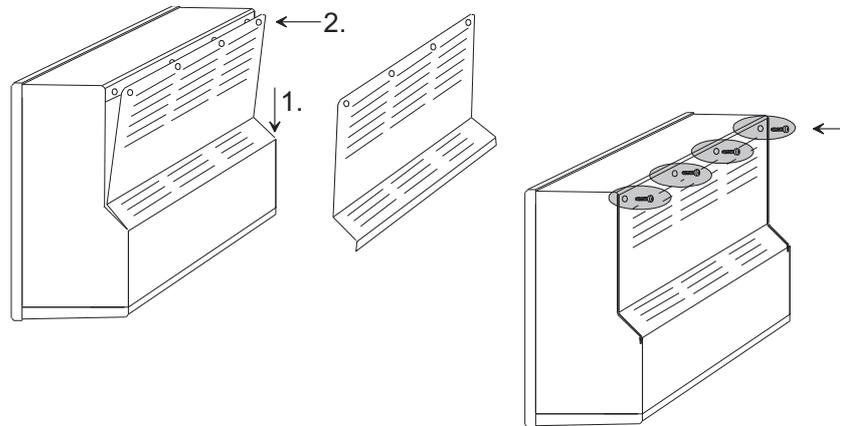

Fig. E 8-11: Mounting of rear cover
16. Reinstall rear cover with four screws (Fig. E 8-11). Remount a table-stand in the middle.